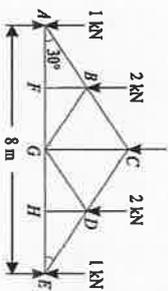

Fig. 33
- 10 A king post truss of 8 m span is loaded as shown in Fig. 33. Find the forces in each member of the truss and tabulate the results